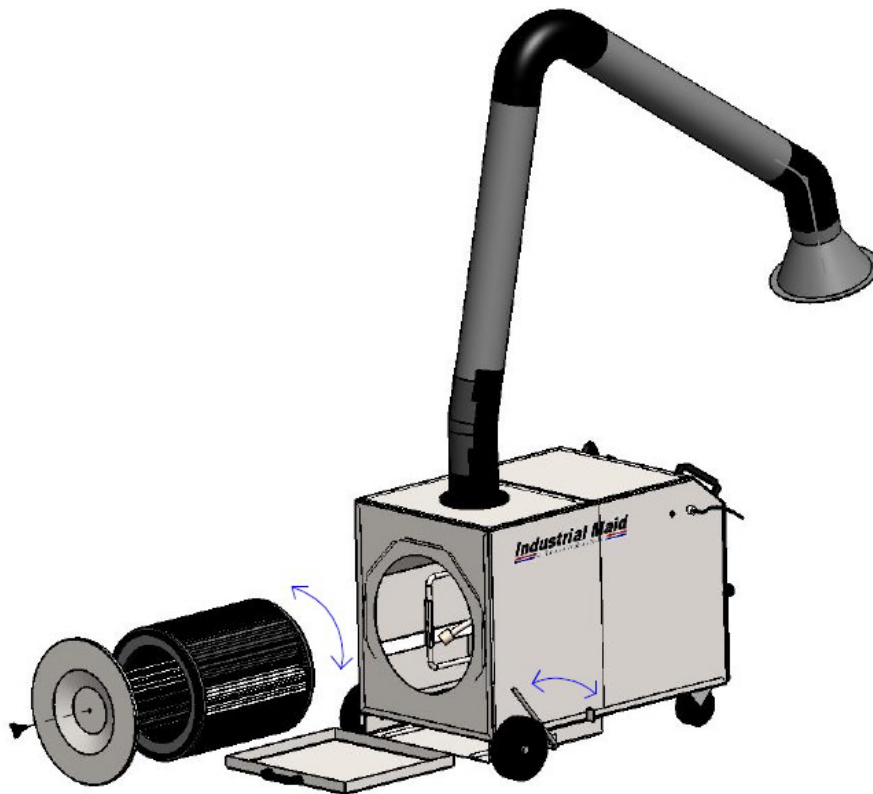

FIGURE 3
2. Unscrew the access cover knob and remove the access cover. (figure 3)
6. Empty dust tray by lowering dust tray lever (figure 3) on the side of the collector, pull the tray out the end. Empty tray into an approved disposal container. Replace tray and raise tray into position with the dust tray lever.
5. Empty dust tray by lowering dust tray lever (figure 3) on the side of the collector, pull the tray out the end. Empty tray into an approved disposal container. Replace tray and raise tray into position with the dust tray lever.